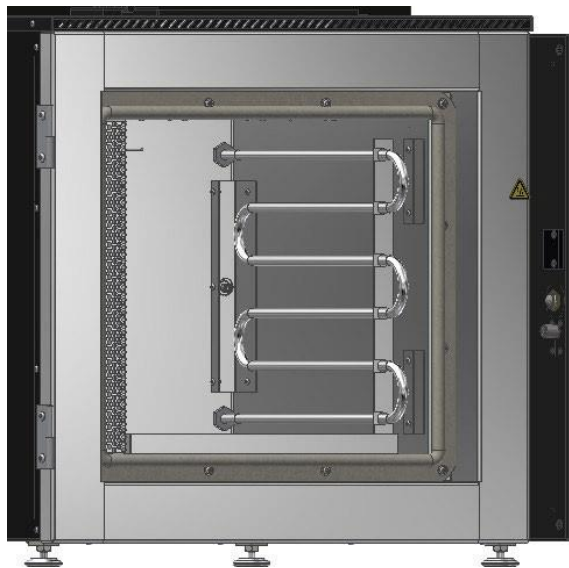

Figure H.13: Heating element (right side) shown with cover removed
7. The heating elements are now exposed (see Figure H.13) and can be removed from the oven.